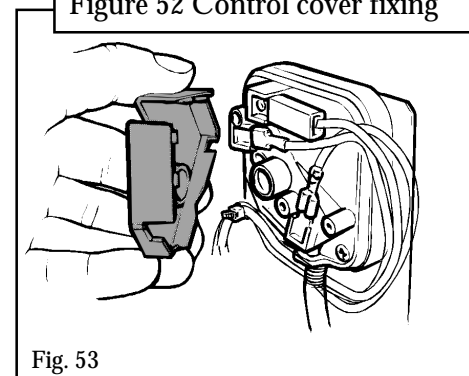

Fig. 53
15.10.4 Remove the cover from the air pressure switch (see figure 53)
15.11.3 Remove the cover from the air pressure switch (see figure 53)